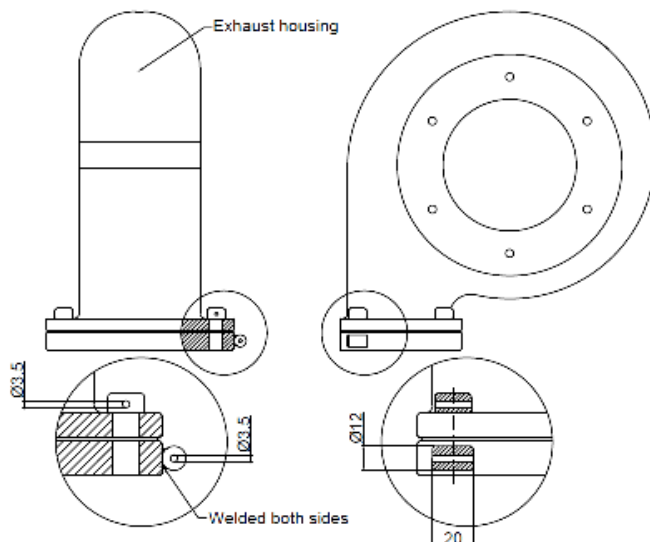

Figure 10 Turbo sealing
- a. Maximum one (1) nozzle for each turbo, only H₂O no additives.
4. Super Sport trucks are limited to one (1) pressure stage with max. two (2) turbo chargers.
- a. Charging with one (1) turbo: The maximum diameter of the inlet wheel is 127 mm (5 inch). Inlet housing 128,8 mm. The maximum diameter of the exhaust wheel of the turbocharger is 132,1 mm (5,2 inch). The max. diameter of the outlet side of the turbo housing is 134,1 mm.
- b. Charging with two (2) turbo's in one (1) pressure stage: Max measurement of a Holset HX 82 or turbine wheel equal to this. Max diameter of exhaust wheel is 112 mm, max bottom diameter of exhaust wheel is 129 mm. Max diameter of exhaust housing outlet is 114 mm.
- d. There must be a possibility (according Figure 10) to seal the turbo by a National official.